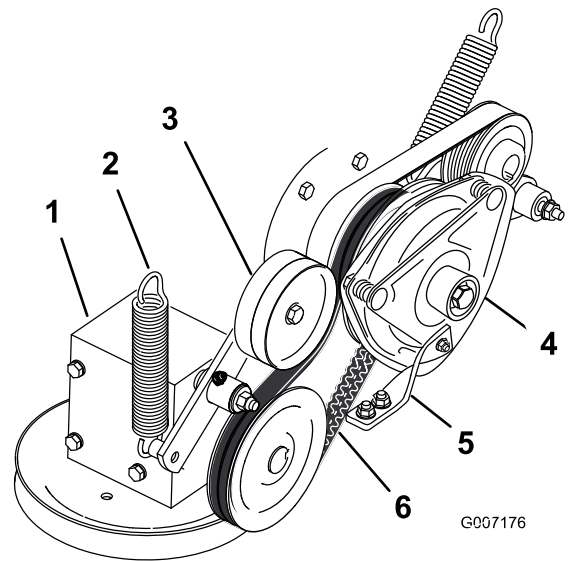

Figure 68
4. Remove the spring from the idler arm (Figure 68).
7. Install the PTO drive belt around the clutch pulley and the gearbox pulley (Figure 68).
9. Install the spring to the idler arm (Figure 68).